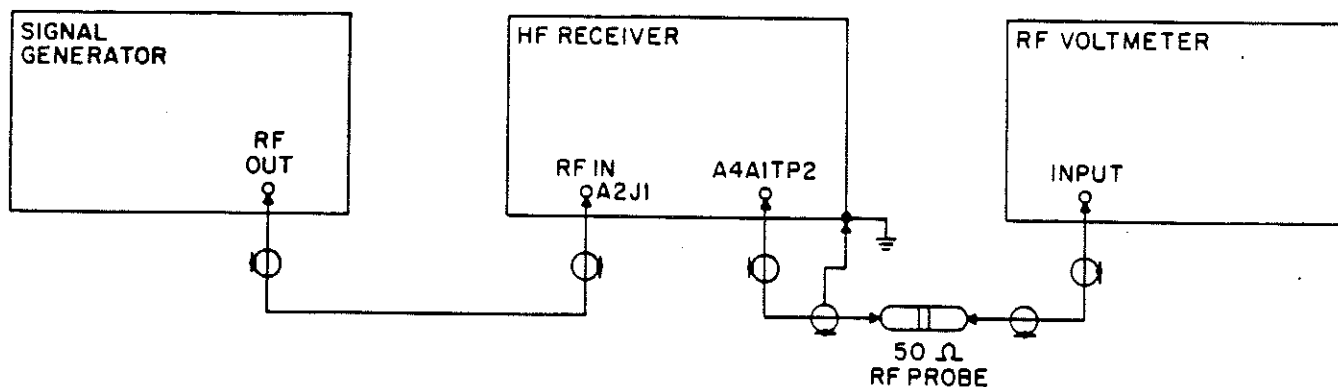

Figure 4-3. 10.7 MHz Filter Switch Adjustment, Test Setup
2. Connect the test equipment as shown in Figure 4-3. Set the Generator for 15.005 MHz, unmodulated, at -64 dBm.